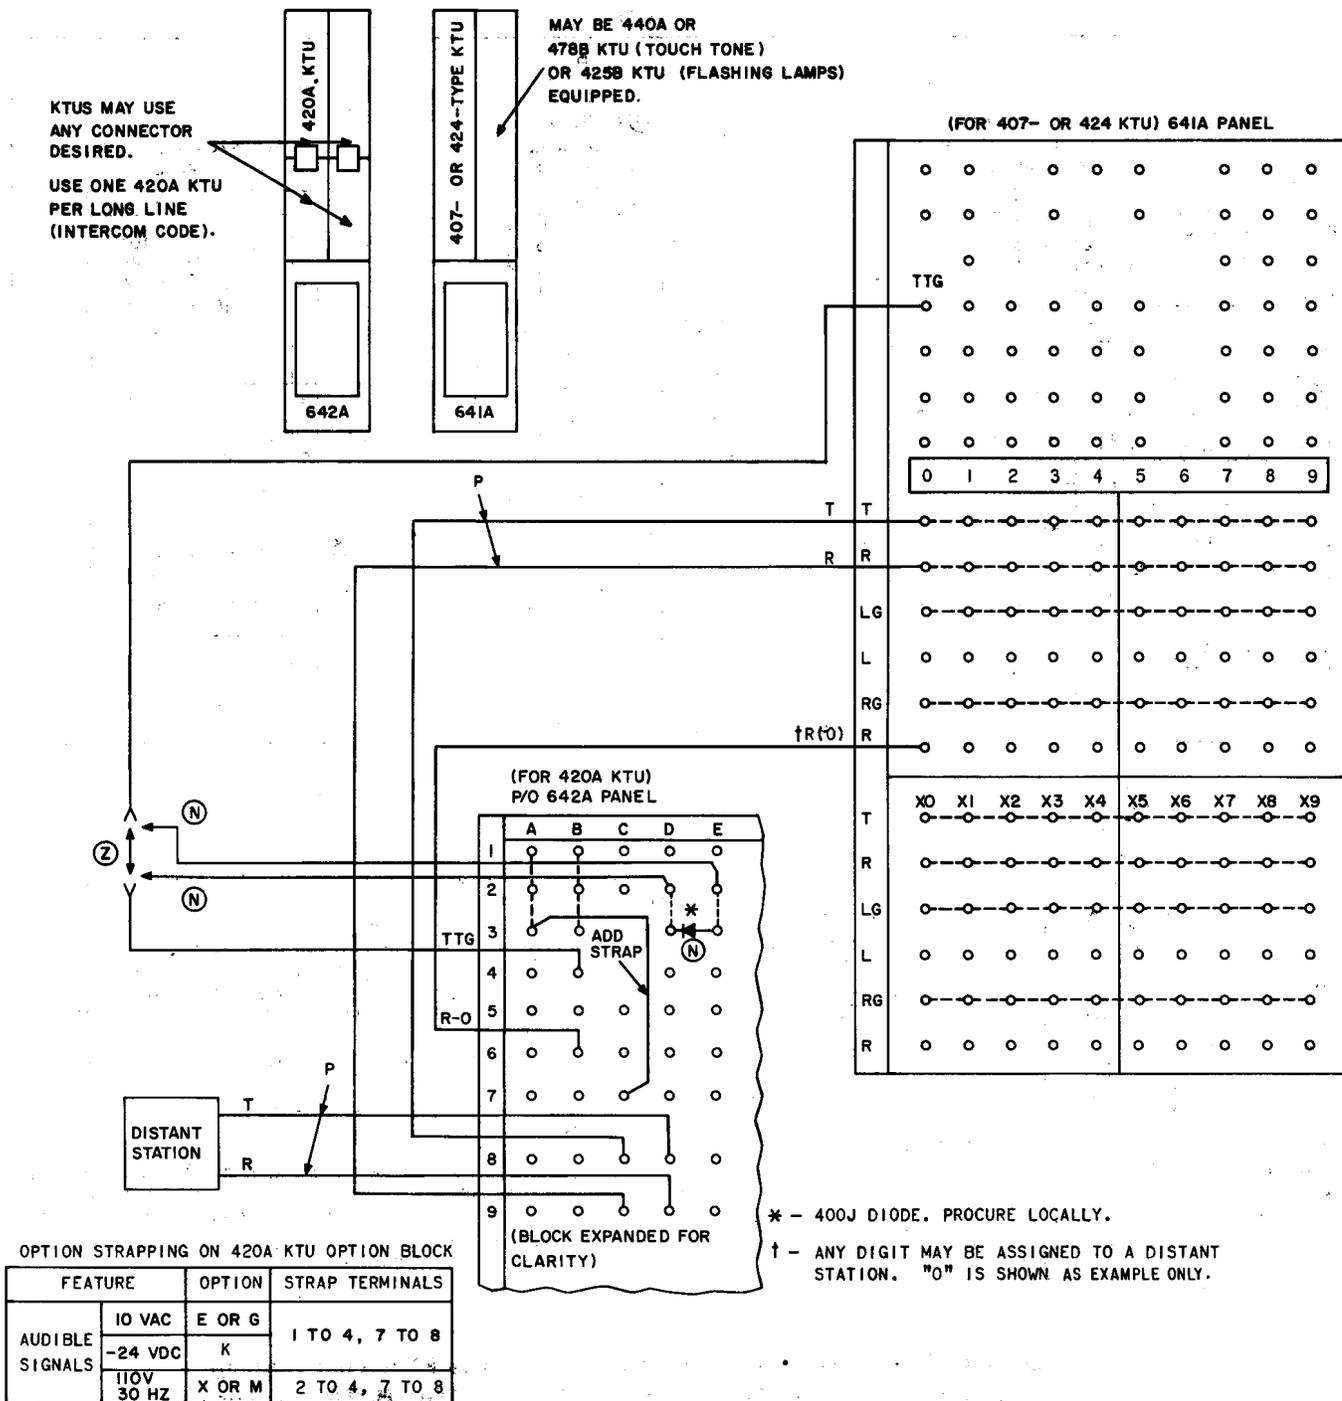

Fig. 38—Long Line Circuit (420A KTU) Option for Basic or Deluxe Dial Intercom
K. 420A KTU—Long Line Circuit (Fig. 38)